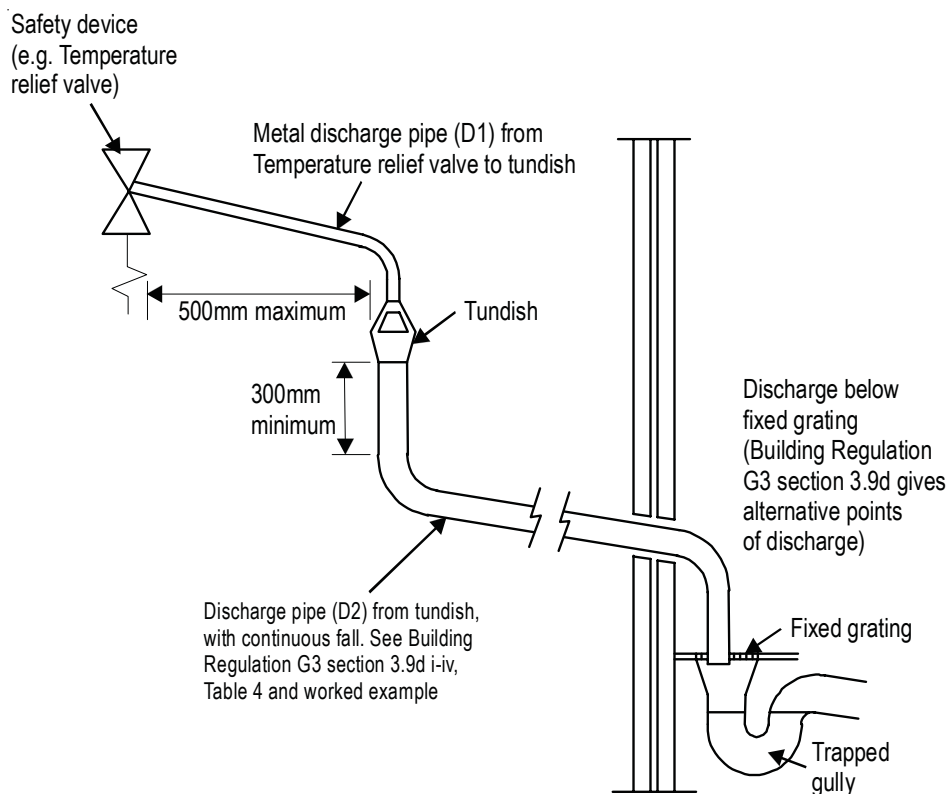

Fig.5: Typical discharge pipe arrangement (extract from Building Regulation G3 Guidance section)
The discharge pipe (D1) [see fig. 5 in this instruction book] from the vessel up to and including the tundish is generally supplied by the manufacturer of the hot water storage system. Where otherwise, the installation should include the discharge pipe(s) (D1) from the safety device(s). In either case the tundish should be vertical, located in the same space as the unvented hot water storage system and be fitted as close as possible and within 500mm of the safety device e.g. the temperature relief valve.
a. be at least one pipe size larger than the nominal outlet size of the safety device unless its total equivalent hydraulic resistance exceeds that of a straight pipe 9m long i.e. discharge pipes between 9m and 18m equivalent resistance length should be at least two sizes larger than the nominal outlet size of the safety device, between 18 and 27m at least 3 sizes larger, and so on. Bends must be taken into account in calculating the flow resistance. Refer to Table 3, Table 1 and the worked example [see Table 3 and Fig. 5 in this instruction book].
Fig. 5 is for a G1/2 temperature relief valve with a discharge pipe (D2) having 4 No. elbows and length of 7m from the tundish to the point of discharge.